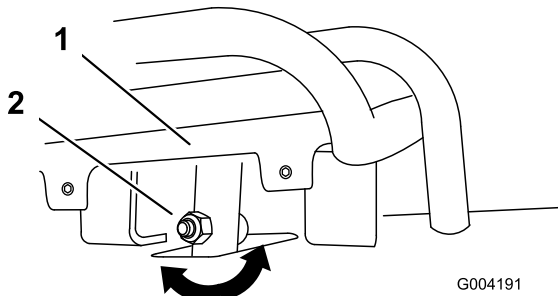
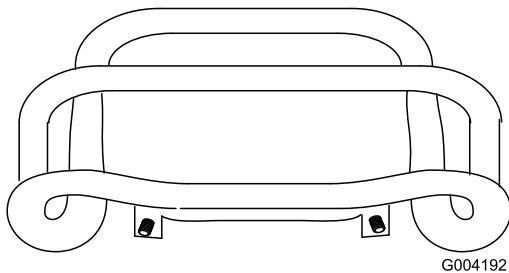

Figure 51
Figure 52
4. If the front of the traction control does not rest square and flush with the reference bar, loosen the flange nut and bolt in the stem of the traction control (Figure 51).
5. Adjust the traction control so that it rests flush against the reference bar when it is pulled straight back (Figure 51 and Figure 52).
C. Loosen the flange nut and bolt in the stem of the traction control (Figure 51).
I. Adjust the traction control so that it rests flush against the reference bar when it is pulled straight back (Figure 51 and Figure 52).